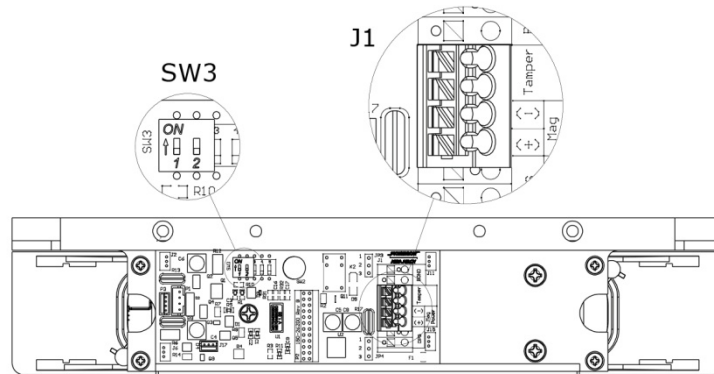

Figure 2. M670 SW3 and J1 Locations
1. LOCATE and SET the components in the M670 and M680BD using Figure 2, “M670 SW3 and J1 Locations,” Figure 3, “M680BD SW3, JP3, JP4, and J1 Locations,” and Table 1, “Component Label, Name, Selection, and Position.”